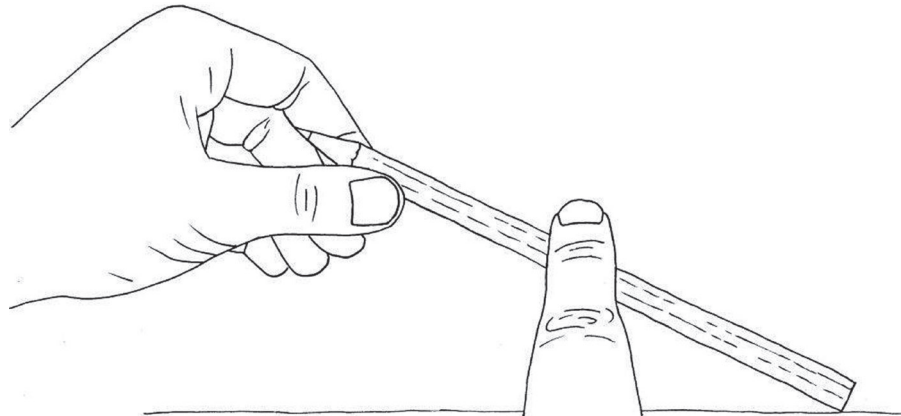

Figure 5
2. In Figure 5, the input force is at one end of the lever, and the fulcrum at the other end. How is a first-class lever different from this?